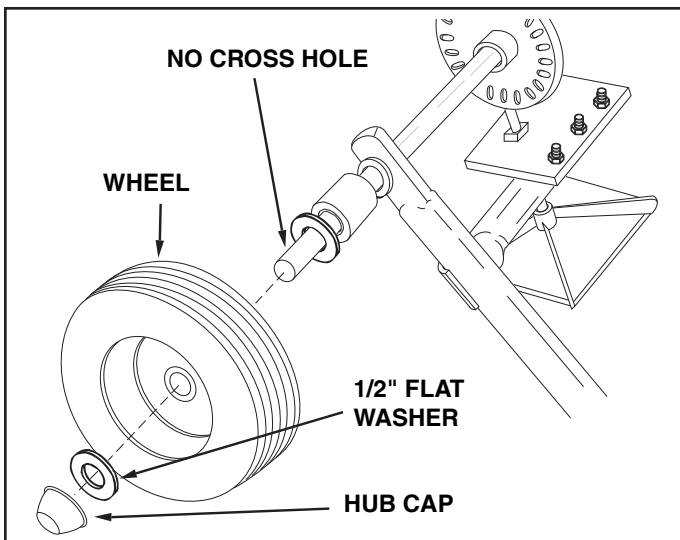

FIGURE 2
3. Place a wheel onto the end of the axle that has no cross hole. The long end of the hub goes to the inside. See figure 2.
4. Place a 1/2" flat washer onto the axle and then lightly tap a hub cap onto the axle until it is snug against the washer and wheel hub. See figure 2.